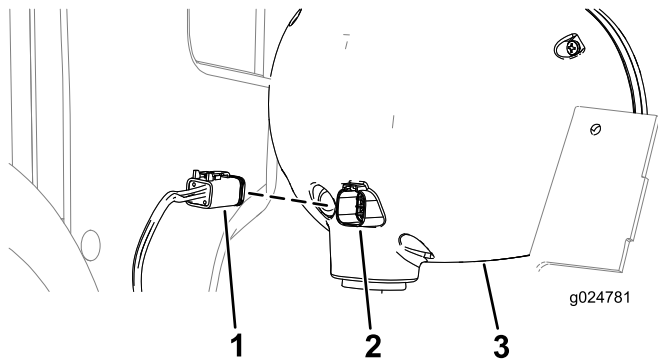

Figure 33
4. Connect the 6-socket connector of the wire harness to the 6-pin connector of the right headlight (Figure 33).